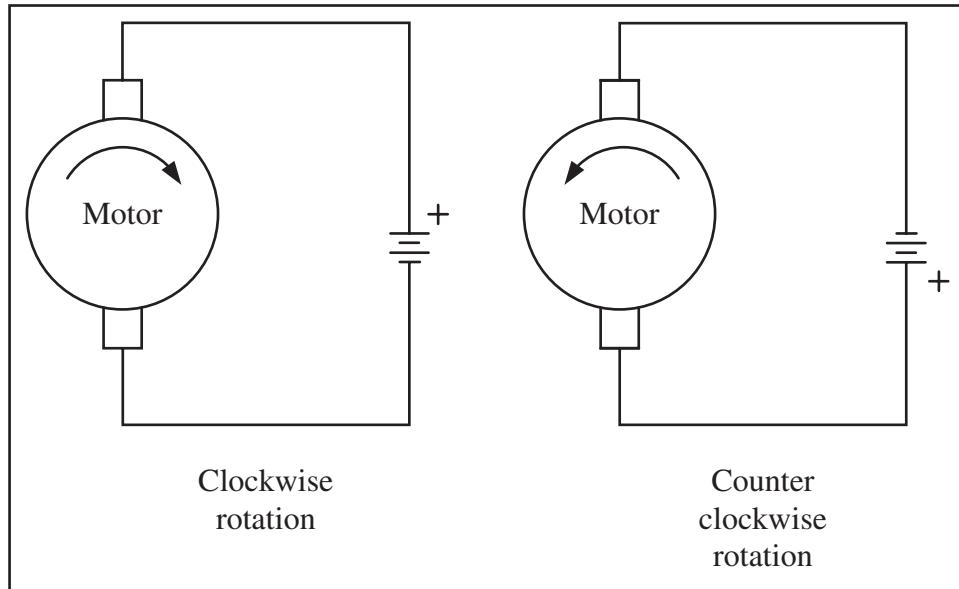

Figure 1. DC Motor Rotation (Permanent Magnet Field)
Figure 1 shows the DC motor rotation for clockwise (CW) and counterclockwise (CCW) rotations. See Table 1 for selected DC motors.